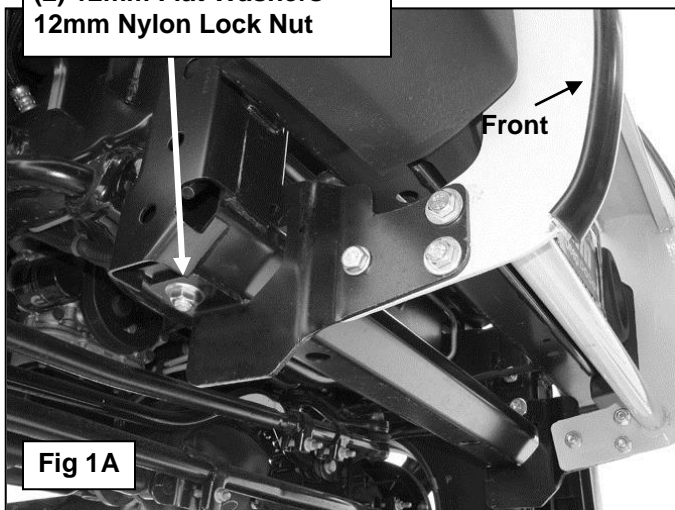
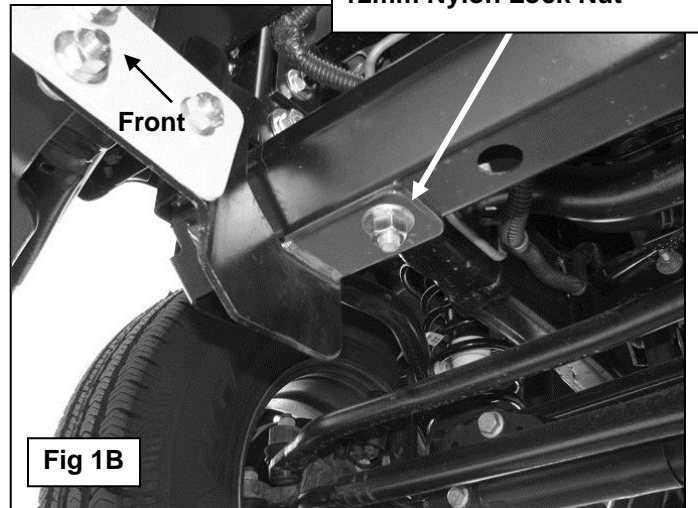

Fig 1A
Fig 1B
- Select the passenger side Frame Mounting Bracket. Bolt the Frame Mounting Bracket to the bottom of the crossmember with (1) 12mm x 30mm Hex Bolt, (2) 12mm Flat Washers and (1) 12mm Nylon Lock Nut. **NOTE: 07-09 models** will use the outer mounting location (**Figure 1A**), and **2010-12 models** will use the inner mounting location, (**Figure 1B**). Insert (1) 12mm x 30mm Hex Bolt, (2) 12mm Flat Washers and (1) 12mm Nylon Lock Nut through the upper tab on the side of the Mounting Bracket upright and tighten hardware at this time, (**Figure 2**). Repeat this step to install the driver side Frame Bracket, (**Figure 1C**).